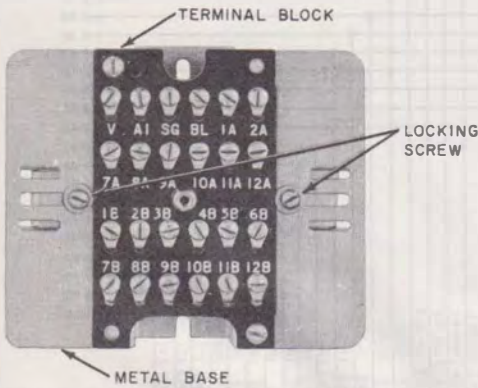

Fig. 4—149A (MD) Adapter, Cover Removed
- Consists of terminal block (Fig. 4), one KS-16671L1 plug, and one KS-16672L1 connector assembled on a metal base.